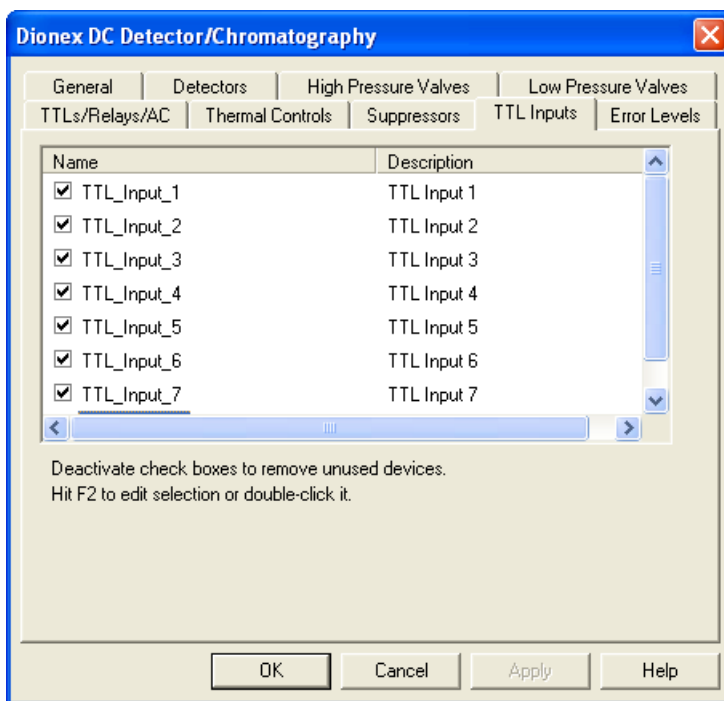

Figure 2-39. DC Server Configuration Properties: TTL Inputs
3. Select the **TTL Inputs** tab (see Figure 2-39).